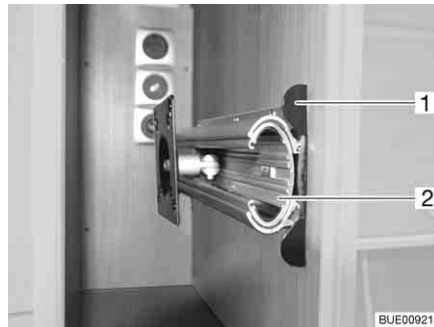

Fig. 65 Holder in the TV cabinet
- Push the unlocking bar (Fig. 65,1) in.
- Pull out the extension (Fig. 65,2) as far as possible.
- Push in the extension (Fig. 65,2) until the unlocking bar (Fig. 65,1) engages.